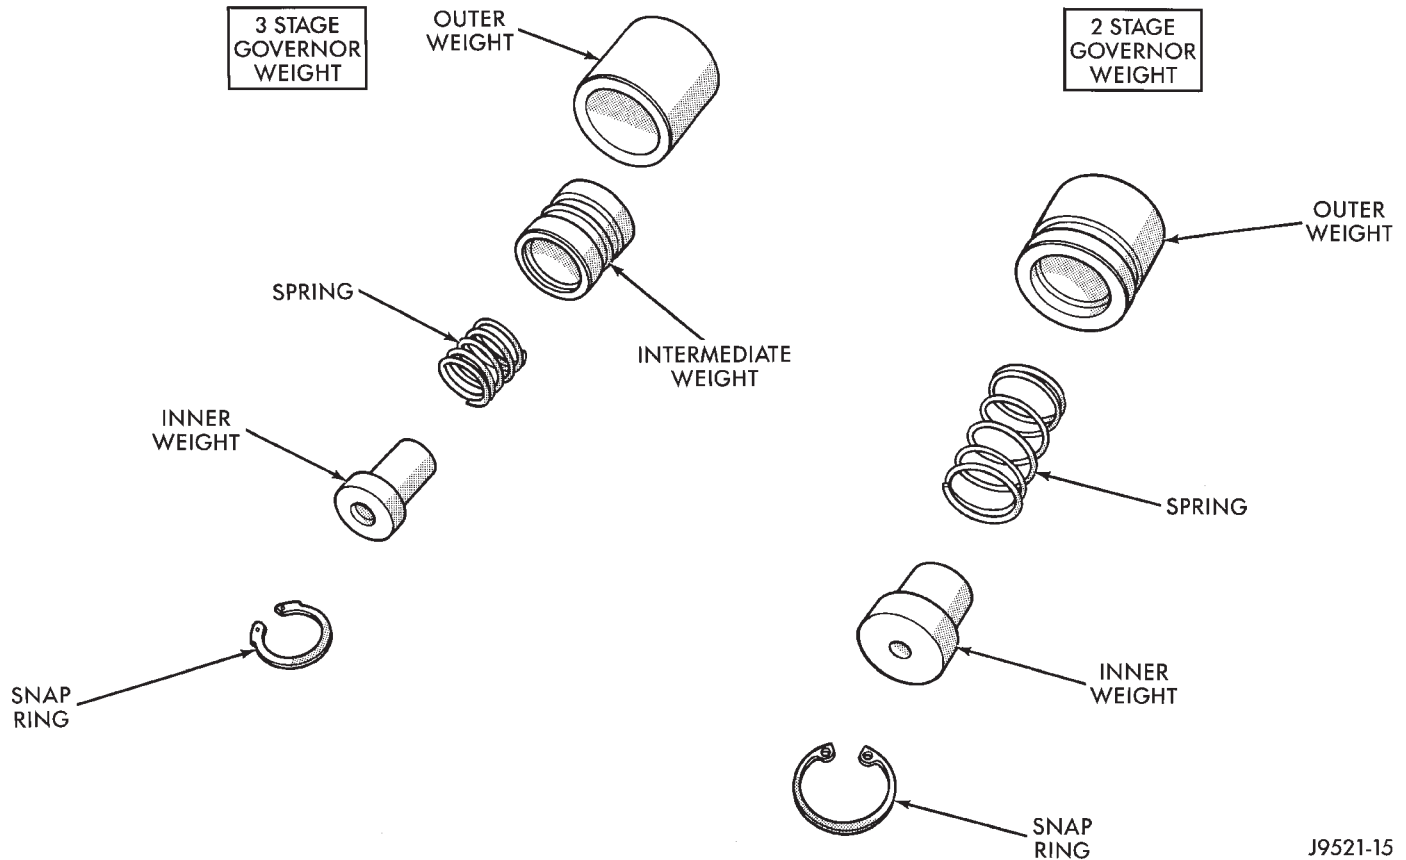
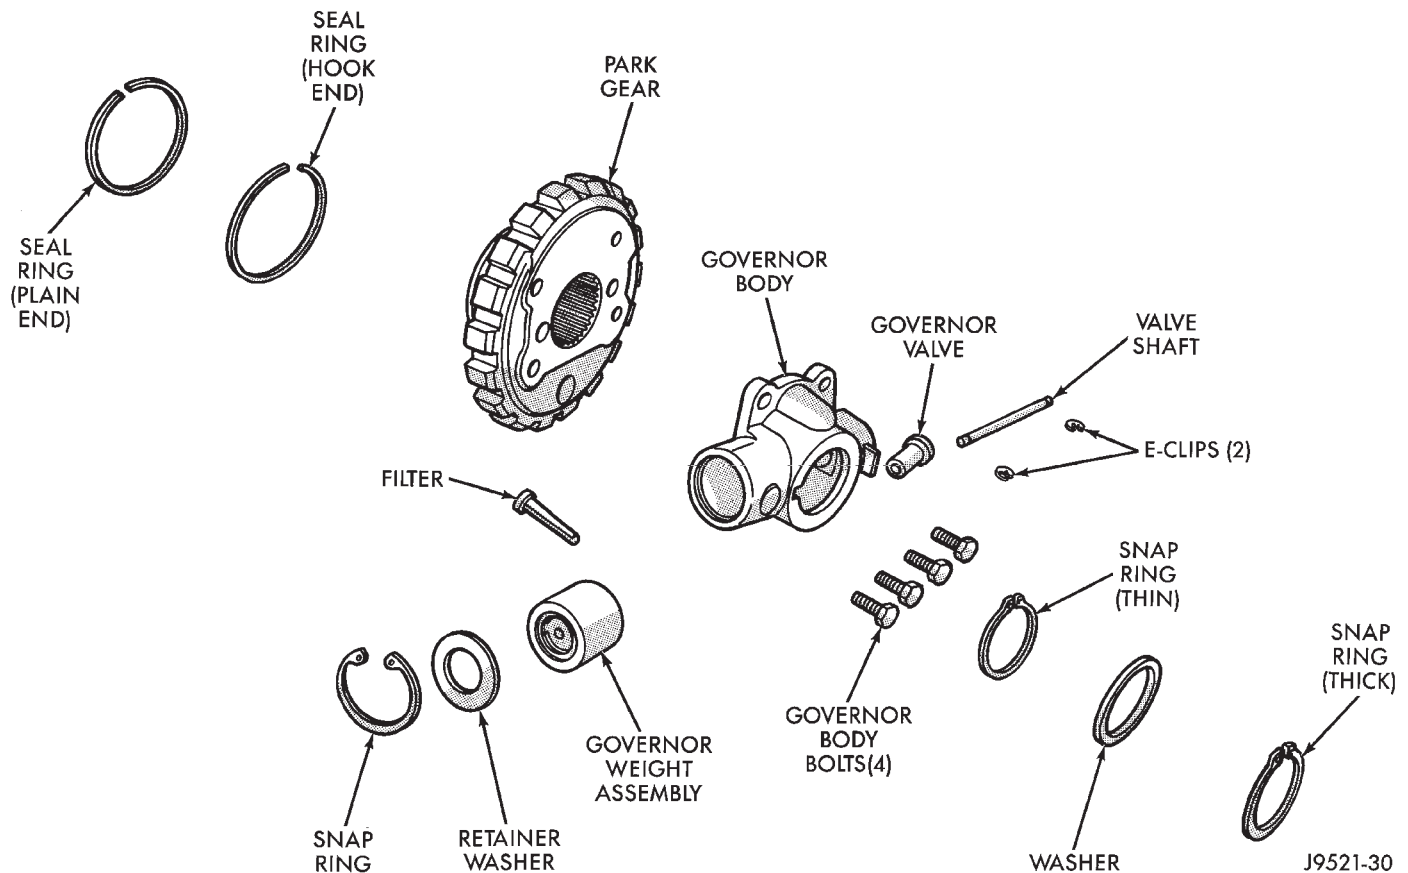

Fig. 43 Governor Weight Components (2- and 3-Stage)
Fig. 44 Governor Components (30RH/32RH)
The governor weight components (Fig. 43), and the governor valve (Fig. 44), must slide freely in their bores when clean and dry. Minor surface scratches and burrs can be smoothed with crocus cloth
(6) Assemble governor weight components (Fig. 43). Then install weight assembly in governor body. **Be sure inner weight snap ring is fully seated before proceeding.**